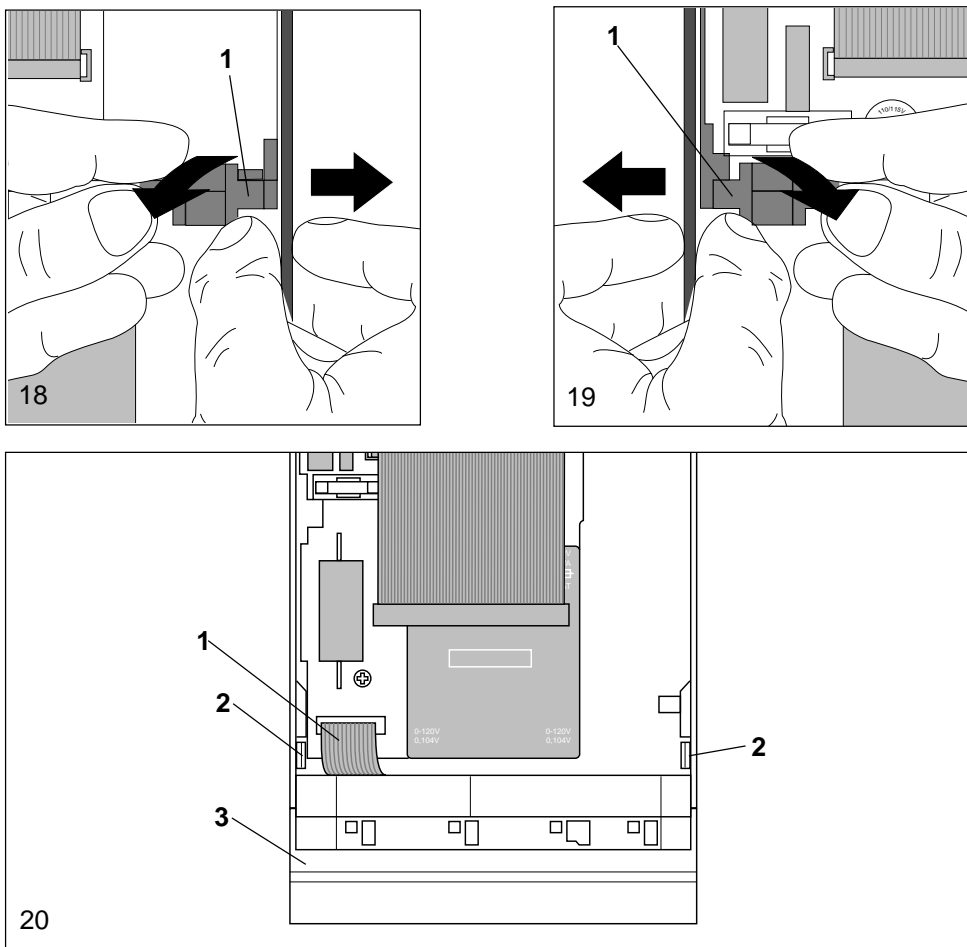

Fig. 18–20: Exchanging the payout set
- Push side cover on the right side of the housing outwards and remove snapped in partition (1) together with cashbox channel (fig. 18).